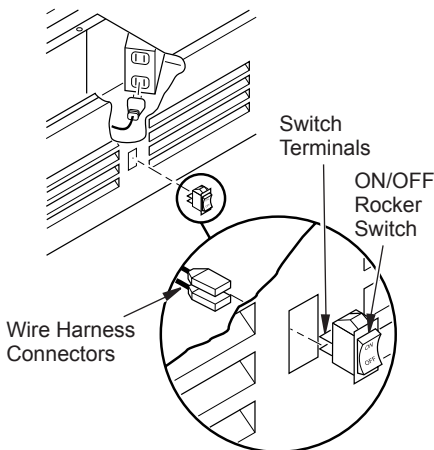

Figure 15 - Connecting Rocker Switch
4. Remove 2 connectors from ON/OFF rocker switch located on wiring harness (see Figure 15).